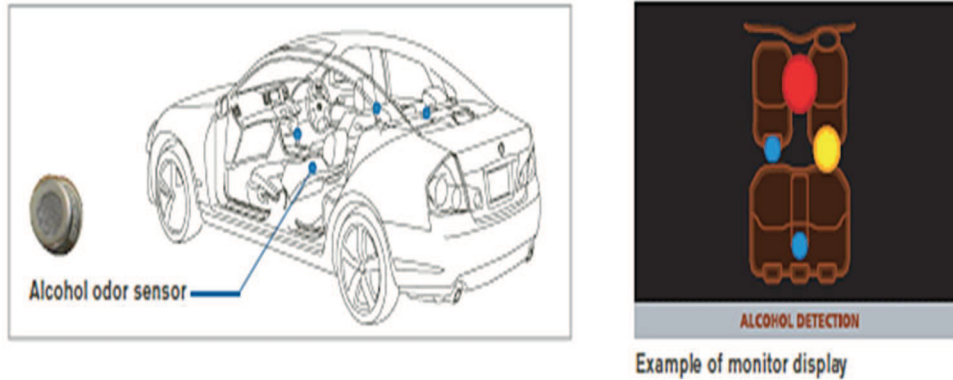

Fig 1. Location of Alcohol Detector Sensors
*Alcohol Odor Sensors:* A hi-sensitivity alcohol sensor [7] is built into the transmission shift knob "Fig. 1", which is able to detect the presence of alcohol in the perspiration of the driver's palm as he or she attempts